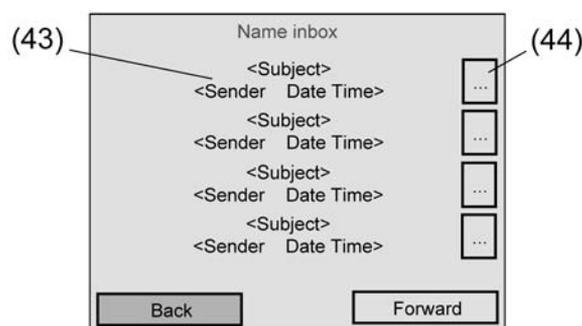

Figure 40: Inbox display page of a mailbox
As soon as the operator taps a mailbox button, the panel switches to the inbox display page of the appropriate mailbox (Figure 40).
- i** Optionally, each mailbox and the main e-mail page "Mailboxes" can be protected by passwords. Should password protection be required, then the password levels of the panel must be assigned in the "e-mail" parameter node in the ETS plug-in. If a mailbox is protected by a password, then the display page of the inbox (Figure 40) is only displayed if the password was input correctly.